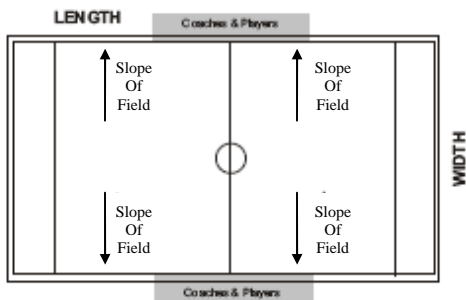

Fig. 7 Determine Slope of Field
1. Identify slope of field (See Fig. 7)